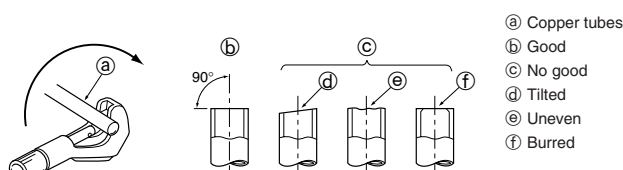

Fig. 5-3
5.2.1. Pipe cutting (Fig. 5-3)